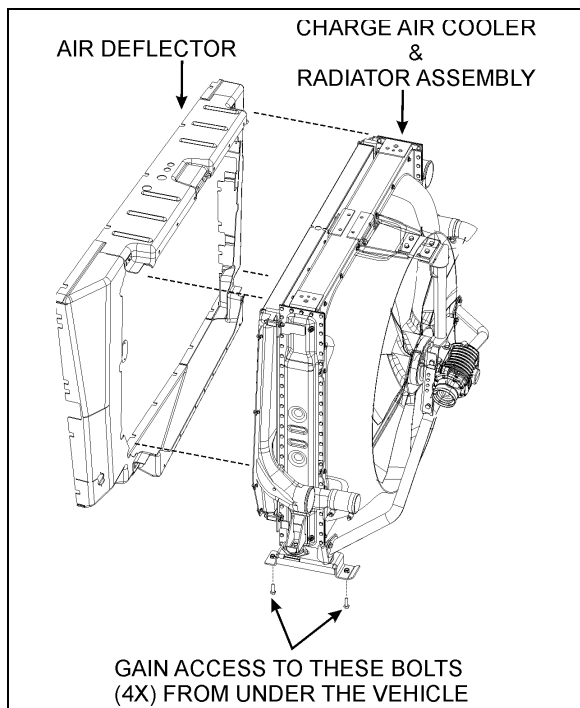

FIGURE 18: REMOVAL OF THE RADIATOR & THE CHARGE AIR COOLER
11. From under the vehicle, unscrew bolts securing the radiator & charge air cooler assembly to the vehicle (see fig. 18).